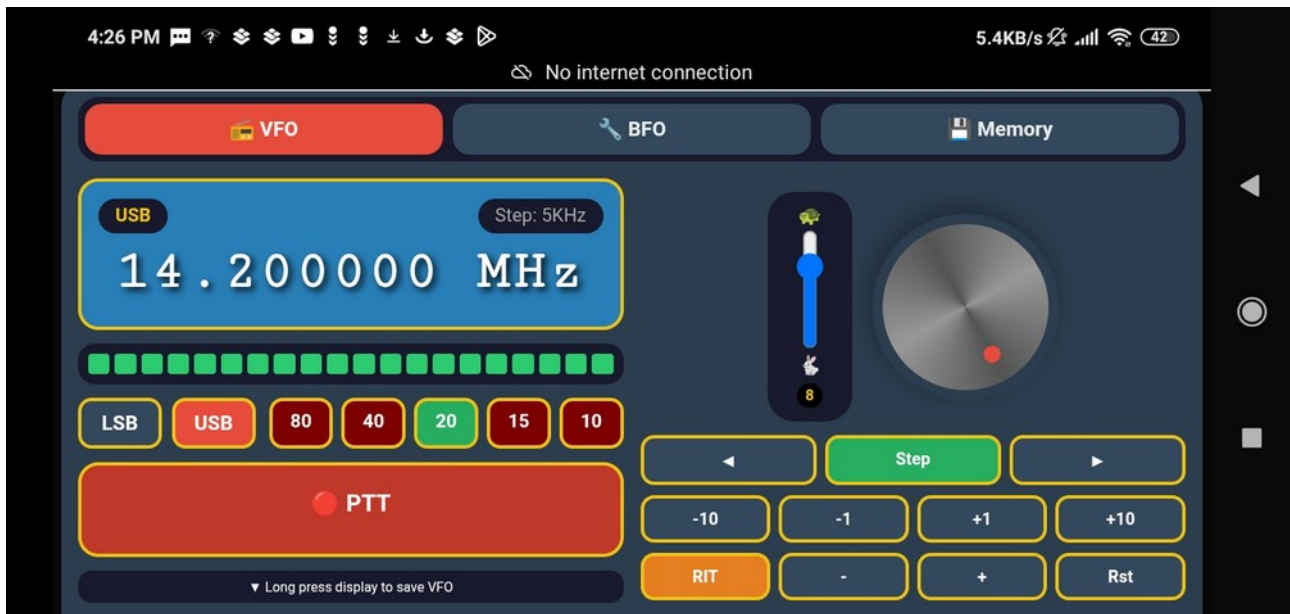

Figure 1: VFO Tab
3. Main Screen (VFO Tab) (Figure 1)